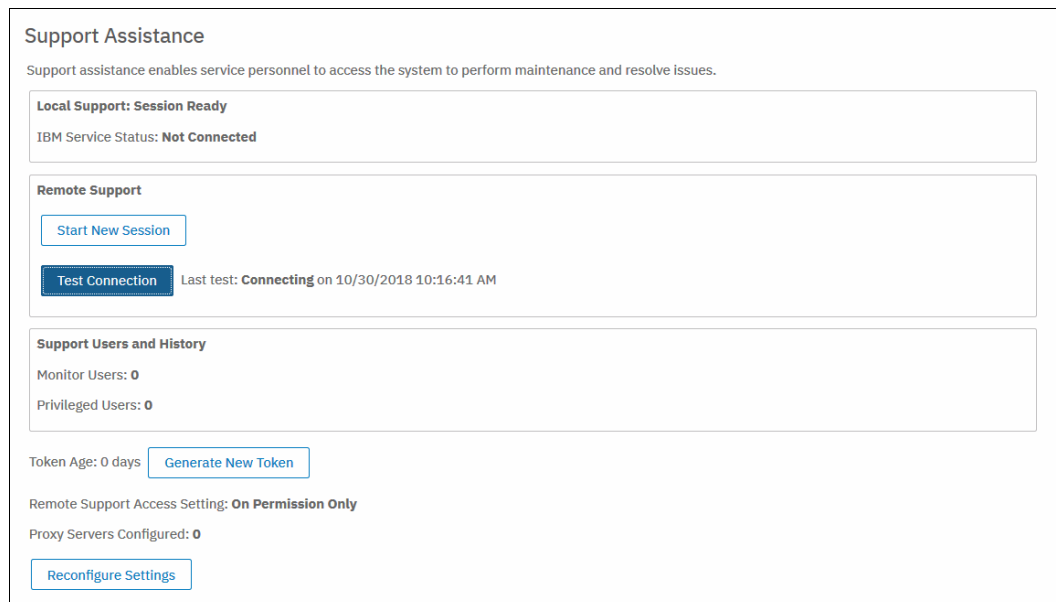

Figure 13-55 Support status and session management
4. After completing the remote support setup, you can view the status of any remote connection, start a session, test the connection to IBM, and reconfigure the setup. As shown in Figure 13-55, we successfully tested the connection. Click **Start New Session** to open a tunnel through which IBM Support can connect.